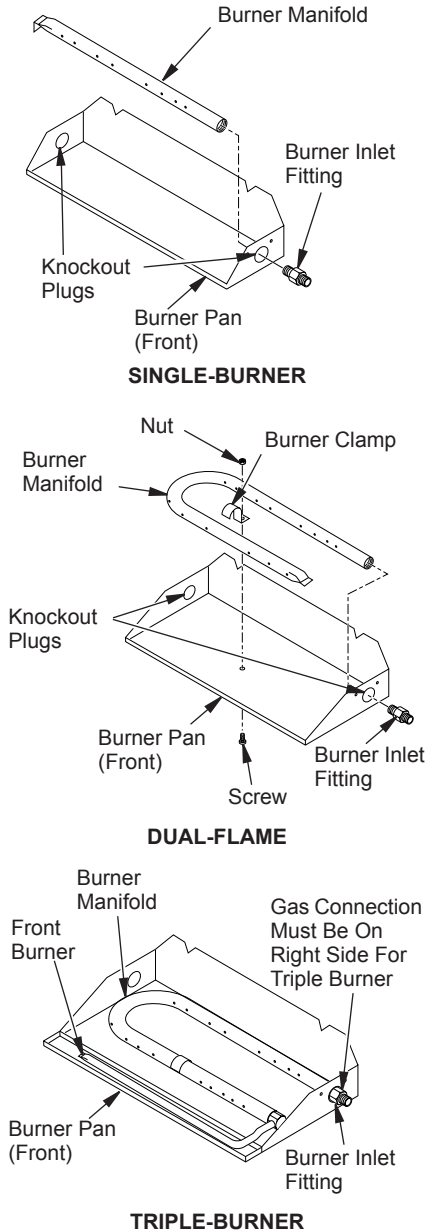

Figure 6 - Installing Burner
2. Using a hammer and screw driver, remove knockout plug from side of pan that corresponds to gas line (see Figure 6).
5. Using thread sealant (resistant to the action of propane/LP gas) on larger end of fitting, screw burner inlet fitting through hole and into burner manifold (see Figure 6). Tighten using a wrench. If using propane/LP gas, see Propane/LP Gas Conversion, page 11.